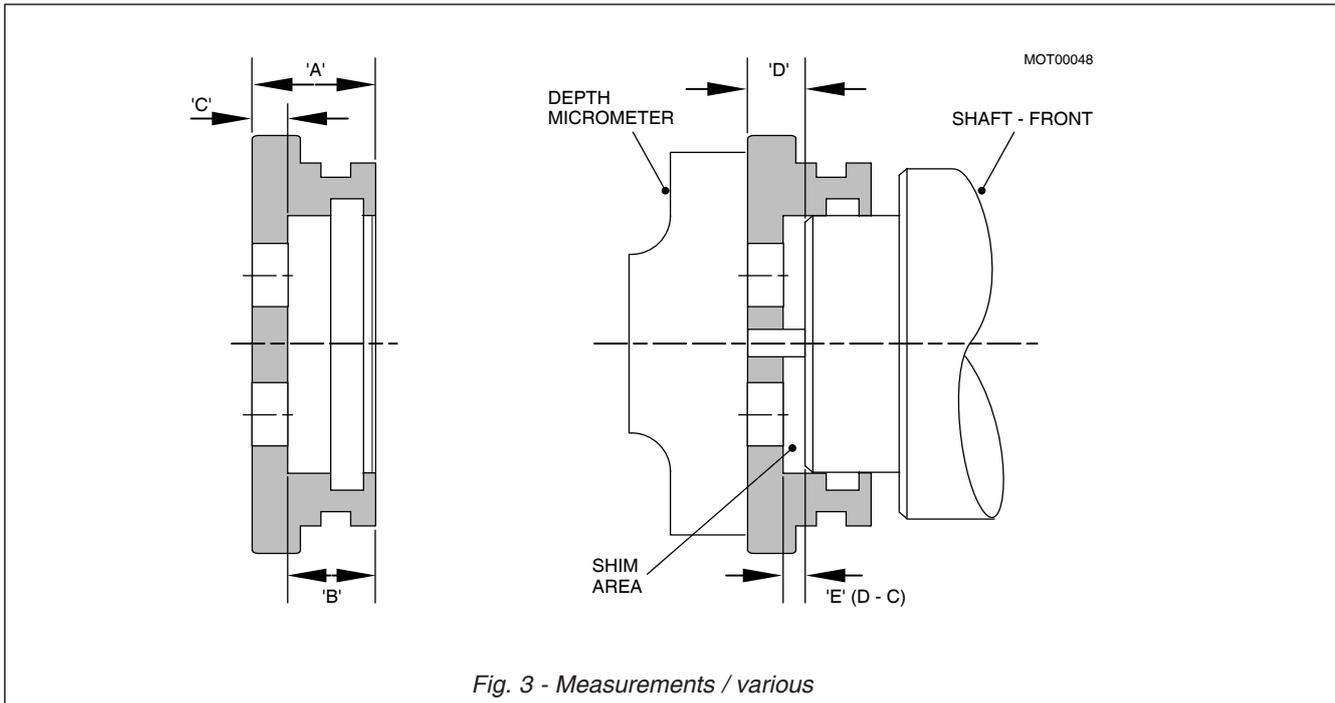

Fig. 3 - Measurements / various
17. Take remaining seal (15), apply loctite (3) and fit over drive shaft with seal 'Lip' to bearing side. Press seal home using a mandrel.
18. Apply grease to splines of Front yoke (17) and slide onto drive shaft (14). Ensure milled slots of driving flanges are aligned with those of brake yoke.
**Note :** For Measurement letters- refer to fig. 3, unless otherwise stated.
19. Before fitting of Front Thrust collar (50) record Measurements as stated:
- i) Measure total width 'A' of Rear thrust collar (63)
- ii) Using Depth micrometer, measure inner bore depth 'B' of Front thrust collar (50) and record value.
20. Fit Front thrust collar (50) without 'O'-rings onto Drive shaft (14) and tighten Rear bolts (19) to a nominal torque of 15Nm/11lbf ft.
21. Using a Depth micrometer, measure distance 'D' from front thrust collar (50) outer face to end face of drive shaft (14) via the hole in the collar and record the value.
22. The actual free air space 'E' to be shimmed between end of drive shaft (14) and compression face of Front Thrust collar (50) equals: